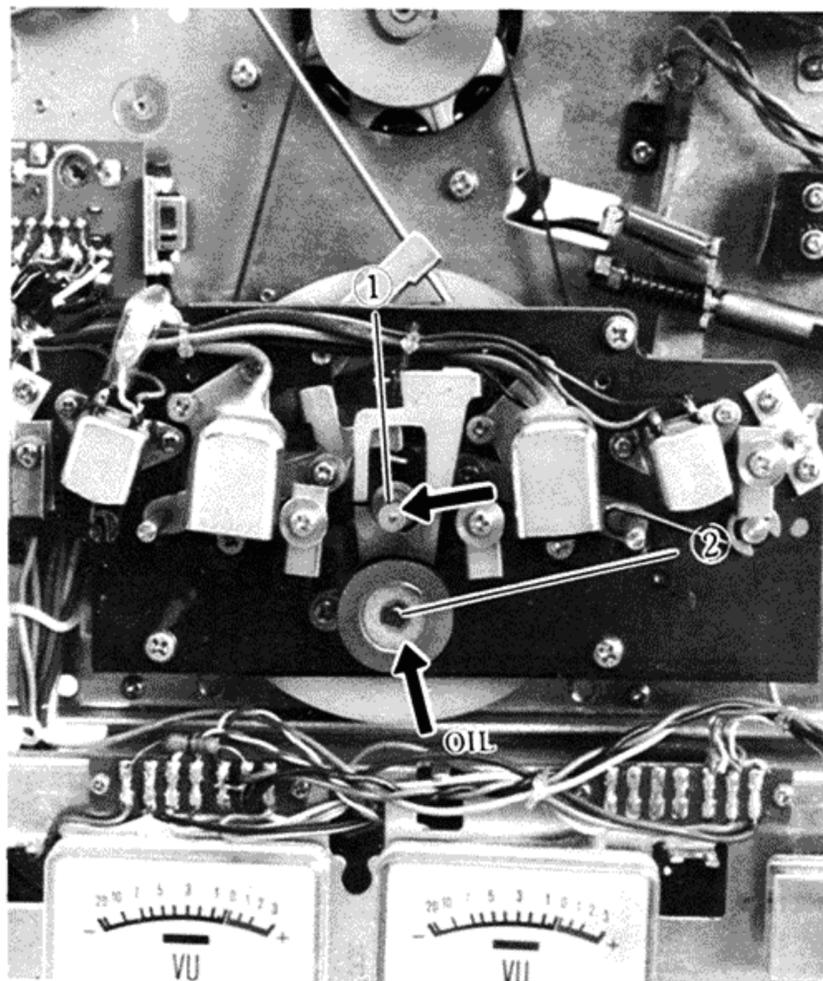

Fig. 5
2. Lubricating the motors and other rotating parts (Fig. 5)
- 2) Capstan piece ① can be lubricated successfully at its upper part; however, if possible remove the capstan and wipe the capstan and inside the capstan piece with a lint-free dried cloth before putting oil into the capstan piece. (Fig. 5)
- 3) Remove the cap of the pinch roller ② and add oil to the molybdenum of the upper part. Use DTE heavy medium for both the capstan piece and pinch roller.